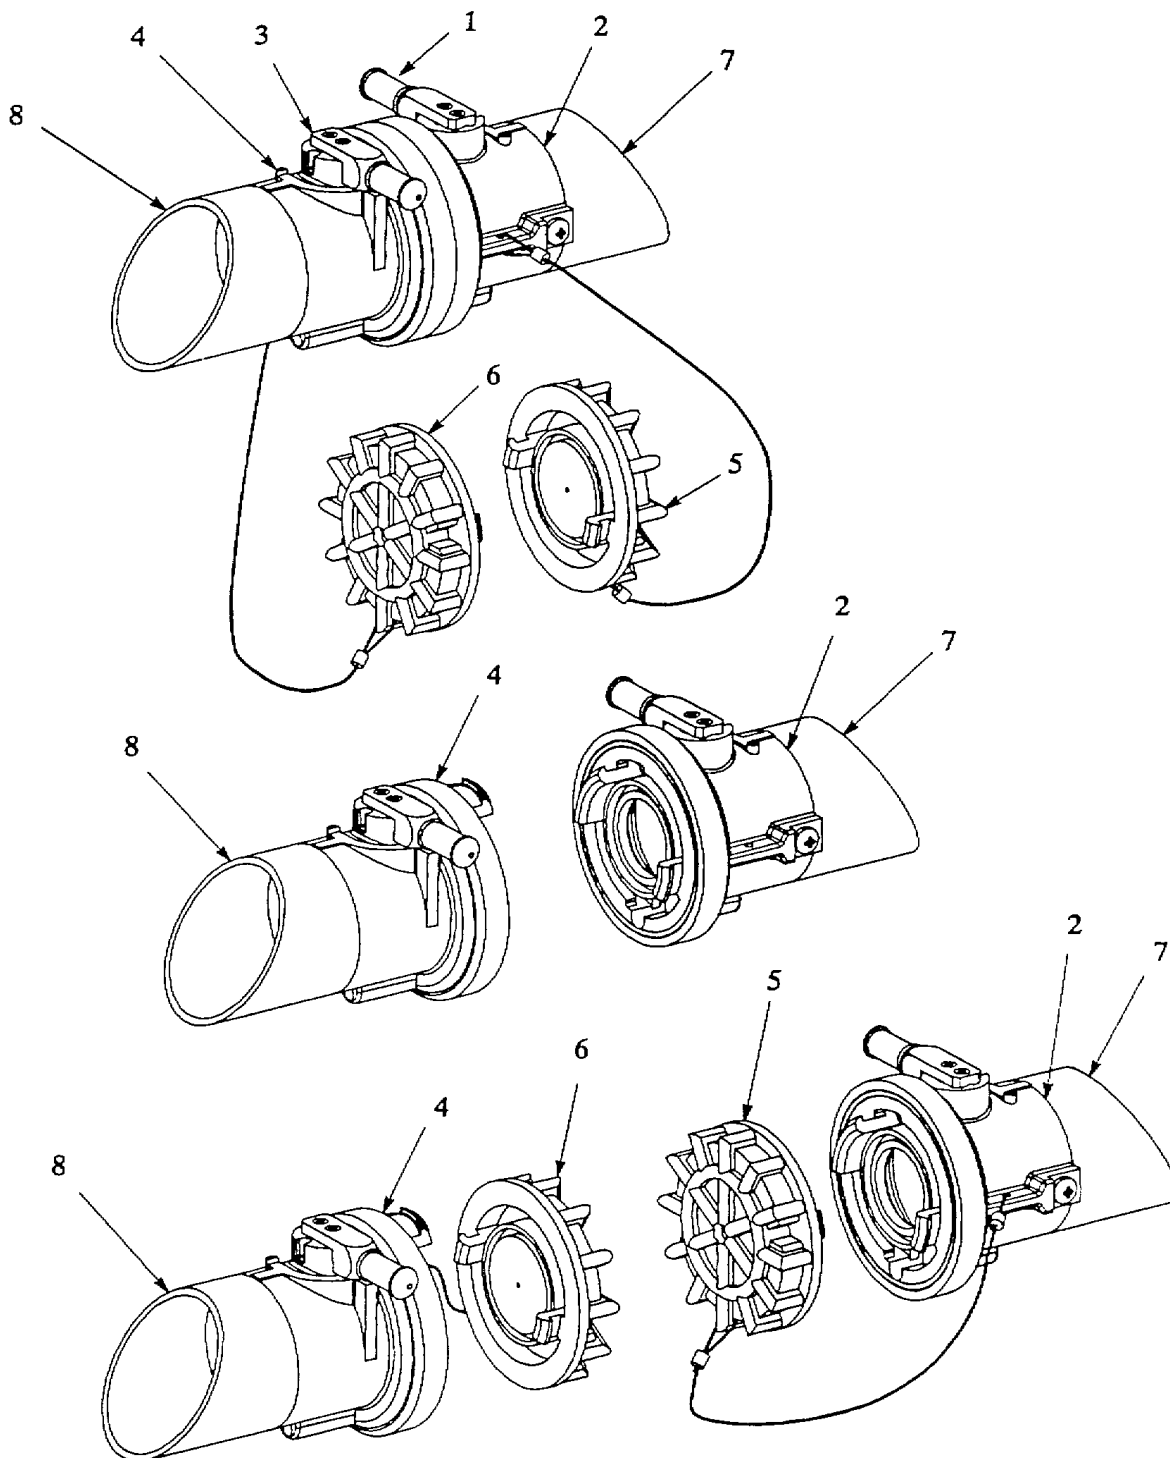

Figure 3-1. Component Removal.
a. Removal. Refer to figure 3-1.
- (1) Defuel fuel hoses using the HEMTT tanker. Refer to TM 9-2320-279-10-1.
- (2) Set control handle (1) on valved coupling (2) to CLOSE.
- (3) Set control handle (3) on valved coupling (4) to CLOSE.
- (4) Disconnect valved coupling (2) from valved coupling (4).
- (5) Disconnect dust cap (5) from dust cap (6).
- (6) Connect dust cap (5) to valved coupling (2).
- (7) Connect dust cap (6) to valved coupling (4).
- (8) Repeat steps (1) through (6) for other end of defective components (7).
- (9) Remove defective component (7) from fuel system (8).